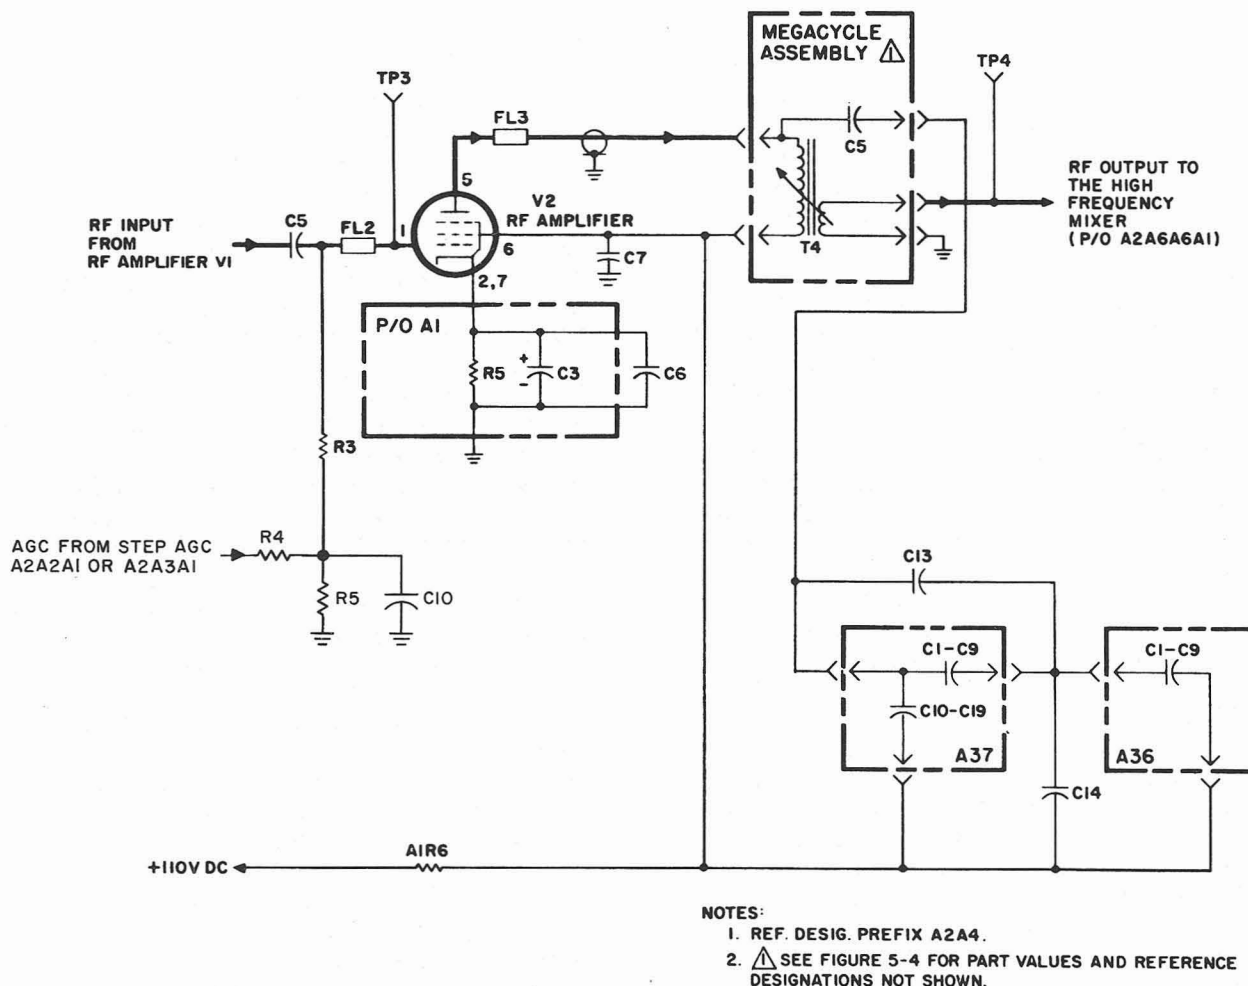

Figure 3-5. RF Amplifier V2, Simplified Schematic Diagram
c. RF AMPLIFIER V2. - RF amplifier V2 (figure 3-5), which forms a part of rf amplifier electronic assembly A2A4, amplifies the signal from rf amplifier V1 for application to the high-frequency mixer in rf translator electronic subassembly A2A6A6. The following paragraphs describe the operation of this circuit in detail.